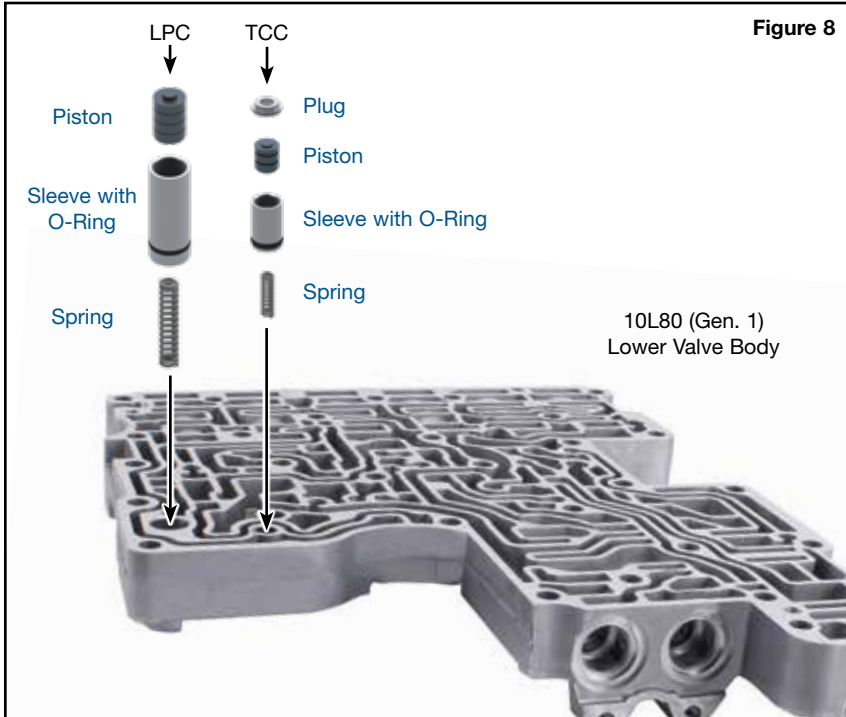

Figure 8
4. Replace TCC Signal Damper Piston (**Figure 8**)
5. Replace LPC Signal Damper (Figure 8)